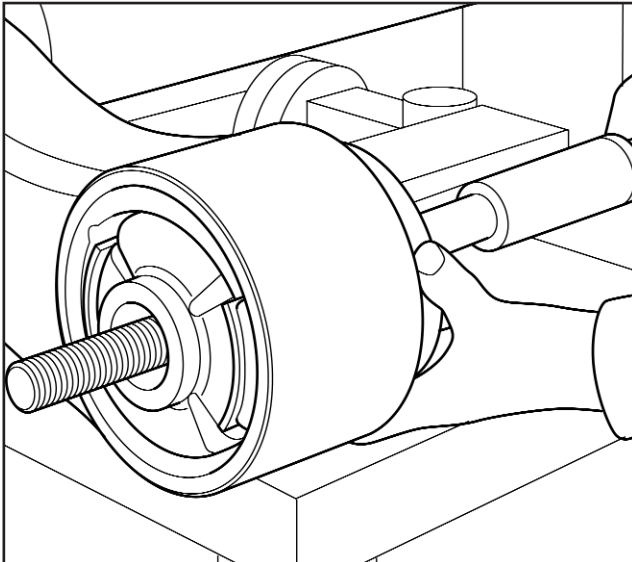

Fig 4.28
12. Press the Front Bush Tool (FBT) "C" against the pivot bush and insert the threaded bar "G". Fit washer "H" and nut "A" to draw bar and secure to FBT "C" (Fig 4.28).